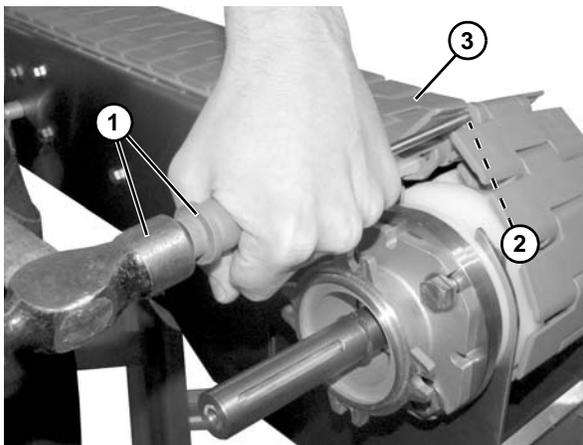

Figure 29
1. Use a punch and hammer (**Figure 29, item 1**) or belt removal tool #514698 to push the belt rod (**Figure 29, item 2**) out by striking the rod end.
2. Slide the old belt (**Figure 29, item 3**) off the conveyor frame.